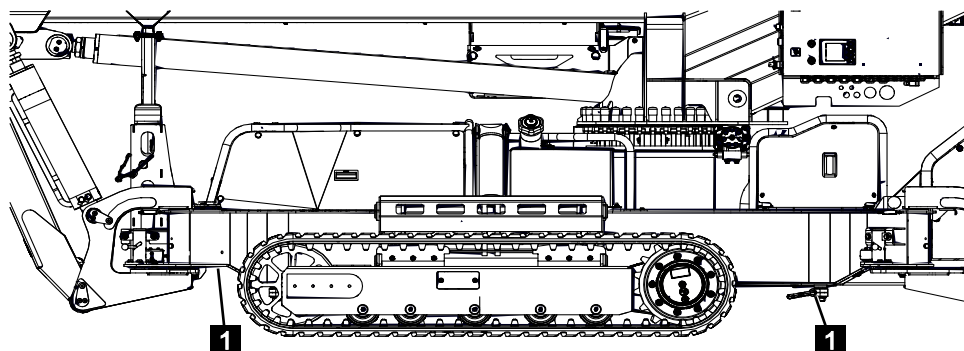

Fig. 64
1. The attachment points on the working platform and the transport frame are labelled with the lashing eye symbol. The lashing points (Fig.64/1) are provided for lashing to the auxiliary frame.